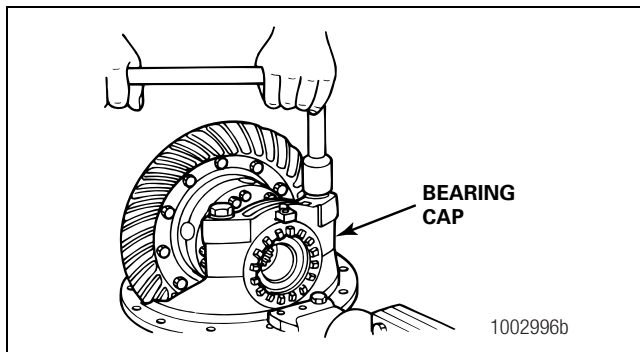

Figure 3.14
6. Remove the capscrews and washers that hold the two bearing caps on the carrier. Each cap is held in position by two capscrews and washers. Figure 3.14.